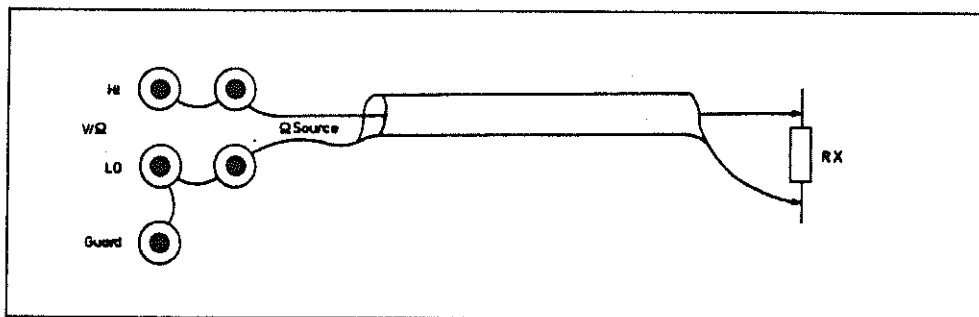

Fig. 6.2.1 Two-wire resistance measurement
The measuring configuration of Fig. 6.2.1 gives acceptable readings only within a resistance range which is restricted by an upper and lower limit. Leakage current problems arise with large resistance values, due to the parallel connection of R_x and the cable insulation resistance. With low resistances, particularly in the 100 Ohm range, the series resistance of the connecting leads causes an appreciable error. A four-wire measuring configuration is recommended for these ranges.
The polarity of the current flowing through Rx has been chosen such that the end of Rx which is connected to the upper socket of the "Ohm-Source" output has a negative potential with respect to the other end of Rx. Always make sure that the end of the resistance Rx which is connected to the upper (HI) socket of the "Ohm-Source" output is also connected to the upper (HI) socket of the "V/kOhm" input (see Fig. 6.2.1 to 6.2.3). The analogous rule holds for the lower sockets.